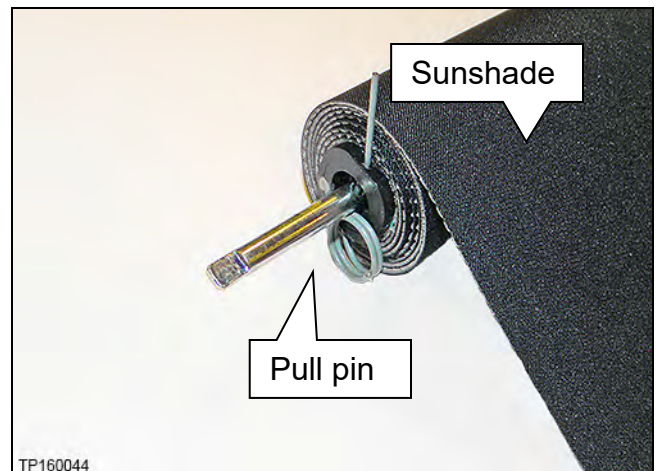

Figure 71
- f. Install the pull pin (Figure 71) into sunshade (a paper clip will also work).